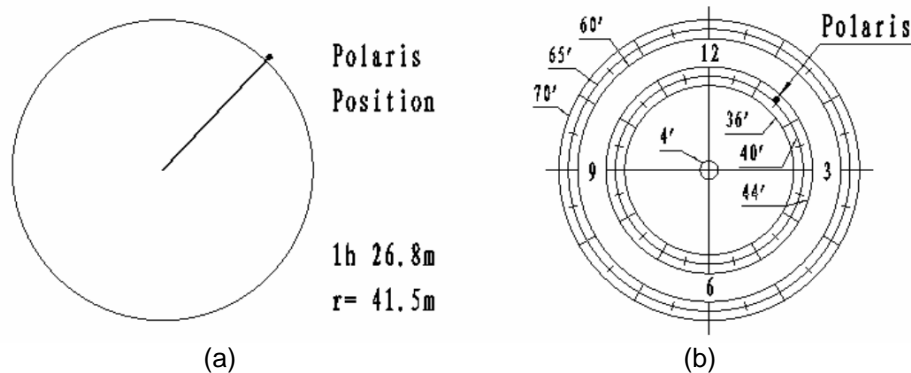

Figure 9
- (1) Turn on the power to the mount by pressing the POWER button on R.A. unit. After GPS OK is shown on the upper right corner of the hand controller, the LCD will display the Polaris Position (as shown in Figure 9(a)). You also can show this chart by pressing MENU button, then select ALIGN and Polaris Position if you are practicing inside or when there is no GPS signal. For example, May 30, 2010, 20:00:00 at Boston, US (alt N42°30'32" and long W71°08'50"), 300 min behind UT, the Polaris Position are 1h26.8m and 41.5m.
- (6) Follow Polar Axis Adjustment procedure to adjust the mount in altitude and azimuth directions and put the Polaris in same position on the Polar Scope Dial as indicated on the HC LCD, as shown in Figure 9 (b).